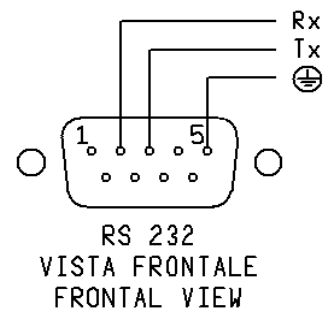

Fig.7
For PC control use the serial communication RS-232 (16) (references fig.7)